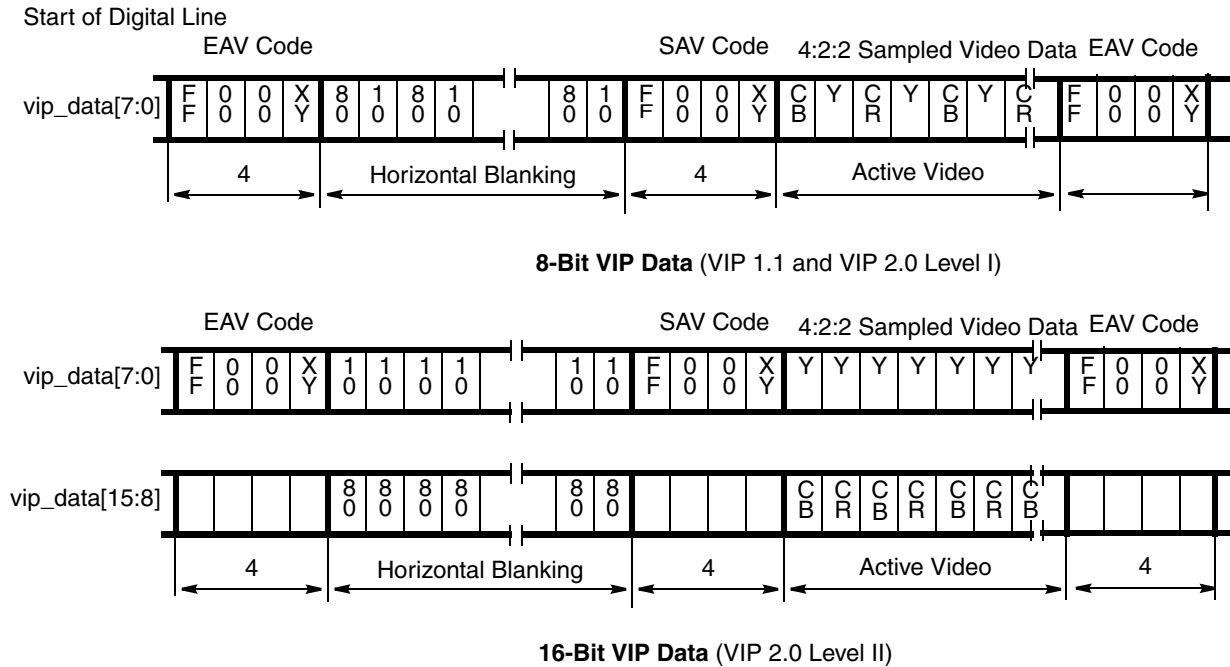

Figure 6-35. BT.656 8/16 Bit Line Data
- Video Flags T, F, and V are valid in the EAV and SAV code, valid values must appear no later than the SAV of the first scan line of the next active region (see Figure 6-35).